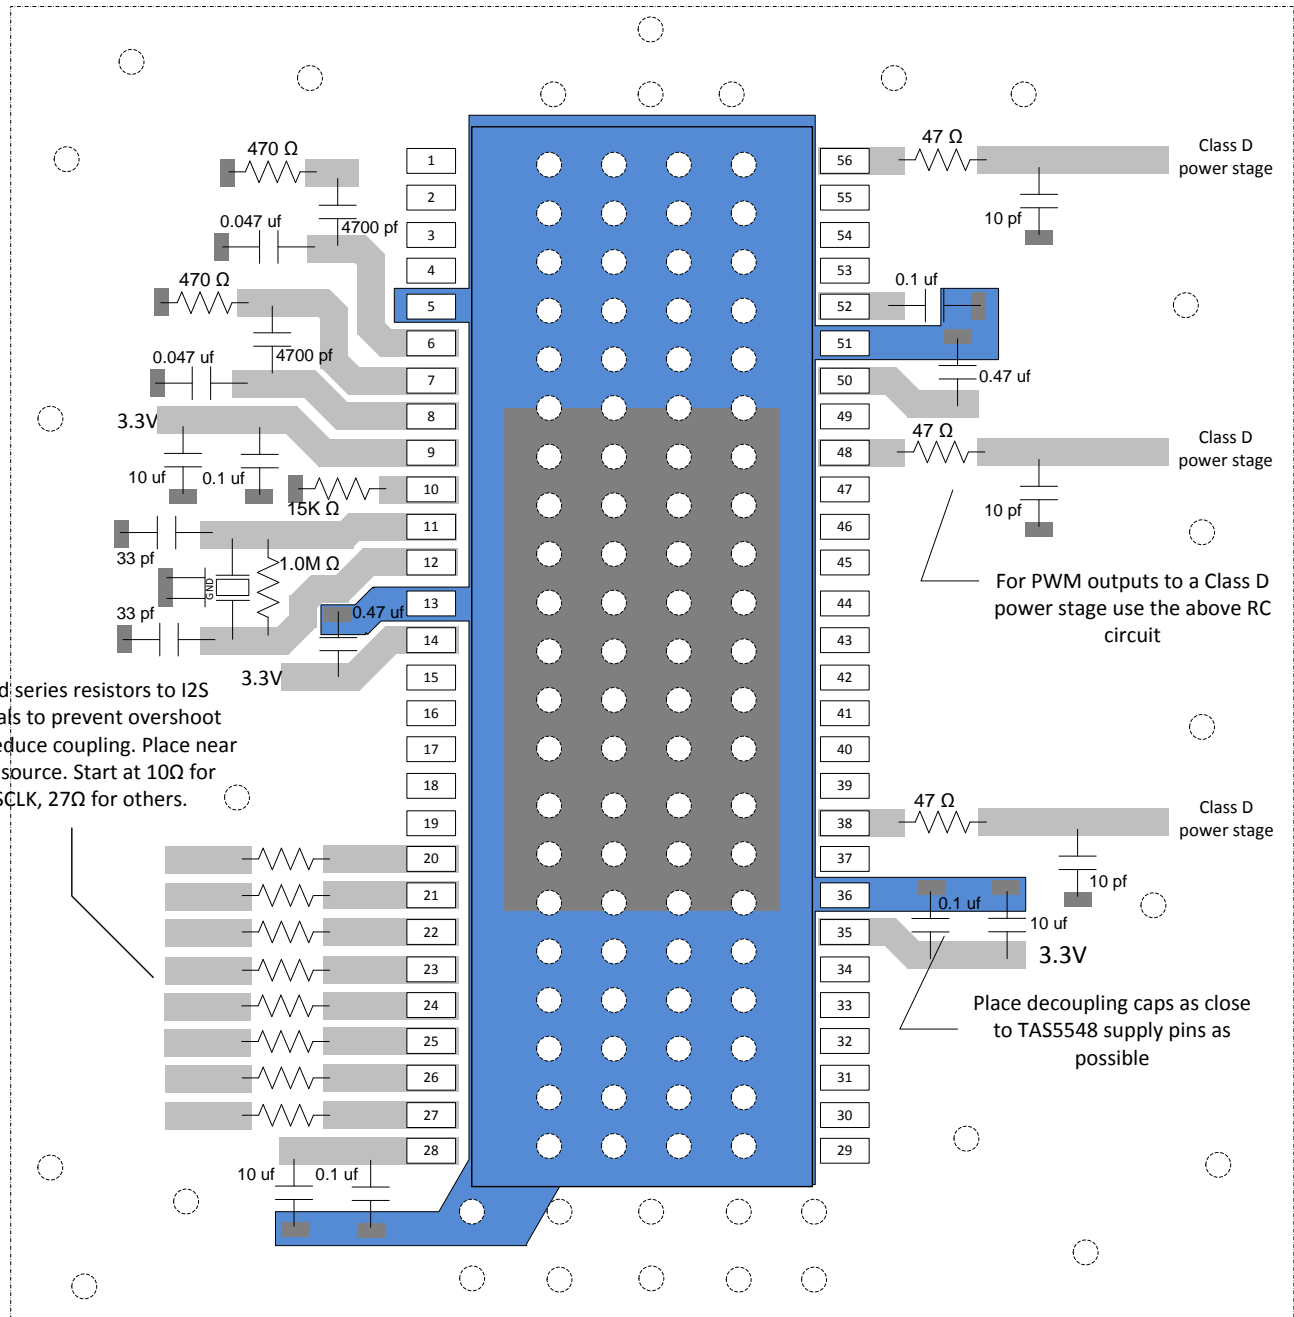

Figure 53. TAS5548 Layout Example
- Decoupling capacitors should be placed as close to the DVDD1_CORE, DVDD2_CORE, VR_DIG, AVDD_PWM and AVDD as possible. These decoupling capacitors should also have a path through the GND plane back to the power pad, as shown by the blue area in the layout example in Figure 53.
- Further guidelines can be found on the layout example in Figure 53.